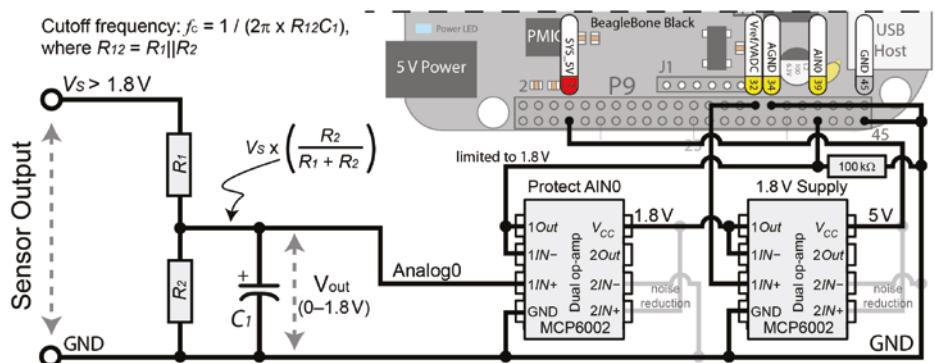

Figure 9-13: Scaling an input signal using voltage division with op-amp ADC protection in place
Figure 9-13 illustrates a voltage division circuit and its integration with the 1.8V op-amp protection circuitry discussed in the previous section. Voltage follower circuits also act as *buffer* circuits. The maximum input impedance of the AM335x ADC inputs ranges from about $76\text{k}\Omega$ at the highest frequencies to many megaohms at low frequencies.³ The voltage divider circuit will further load the sensor output impedance (perhaps requiring further unity-gain buffers before the voltage divider). However, the MCP6002 will act as a buffer that prevents the sensor circuit from exceeding the maximum input impedance of the ADC (remember that ideal voltage follower circuits have infinite input impedance and zero output impedance). There are some important points to note about this circuit:
- With multi-op-amp packages, unused inputs should be connected as shown in Figure 9-13 (in light gray) to avoid random switching noise.